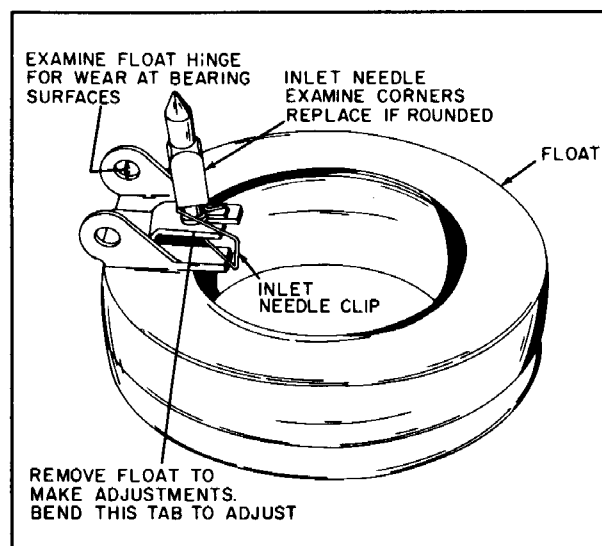

Figure 4-10
FLOAT - Remove the float (Figure 4-10) from the carburetor main body by pulling out the float axle with a pair of needle nose pliers.
- a. Examine the float for crushing or holes. Examine the float hinge (Figure 4-10) bearing surfaces through which the float axle passes and replace if worn. Excessive wear on the tab of the float hinge that contacts the inlet needle will require replacement of the float to assure proper fuel metering within the carburetor.
The inlet needle and seat in this carburetor are of a different design than is normally found in a float carburetor. There is no inlet seat fitting to remove during disassembly. The inlet needle is anchored to the float tab by a clip, (Figure 4-10) to assure proper movement of the inlet needle off of the seat when the float drops. The inlet needle clip must be positioned as shown in Figures 4-10 and 4-14 during reassembly.